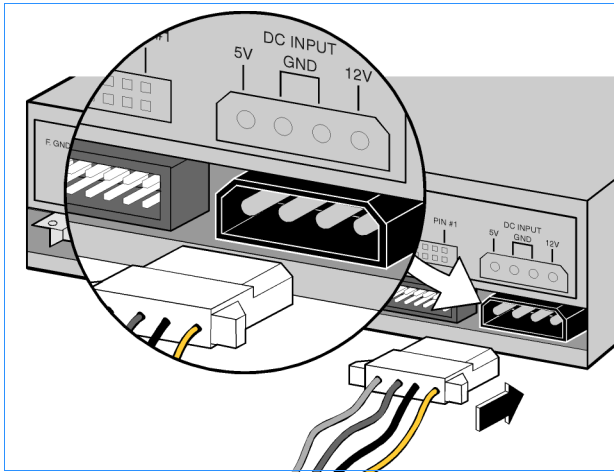

Figure 24 Power Connector on Drive Back
15. Plug the power cable into the back of the HP drive. The connector only fits one way. (See Figure 24.)